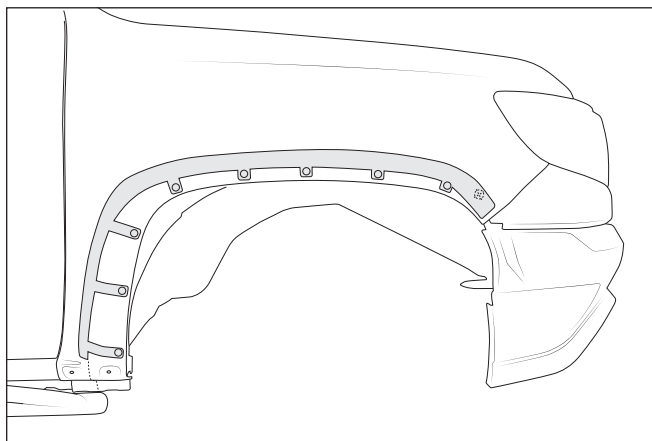

Figure 2
3. Adhere templates to vehicle with tape or the plastic clips from the factory flare, align the factory holes with the templates (fig. 2).